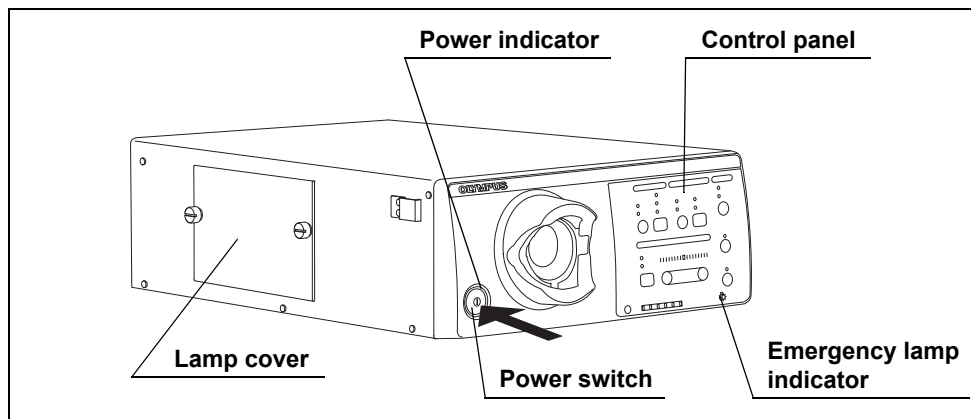

Figure 4.3
- 3 Press the power switch of the light source. (See Figure 4.3)
- 4 Confirm that the power indicator lights up. (See Figure 4.3)
- 5 Confirm that the emergency lamp indicator on the control panel is not ON or blinking. (See Figure 4.3)